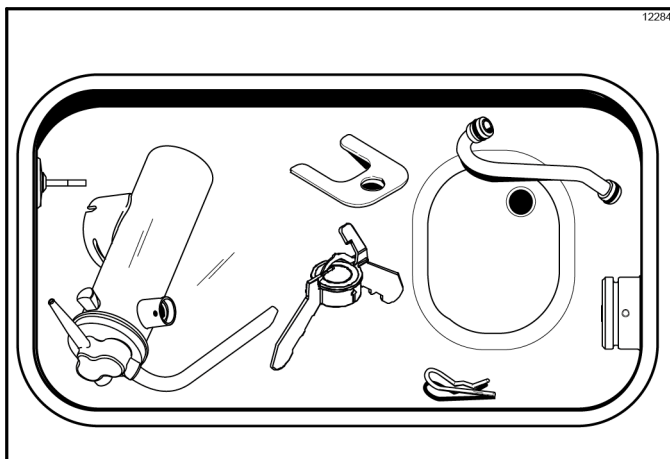

Figure 6-30
14. Lay the agitator, pump assembly, pump clip, mix feed tube, and locking clip in the bottom of the mix hopper for sanitizing. (See Figure 6-30.)